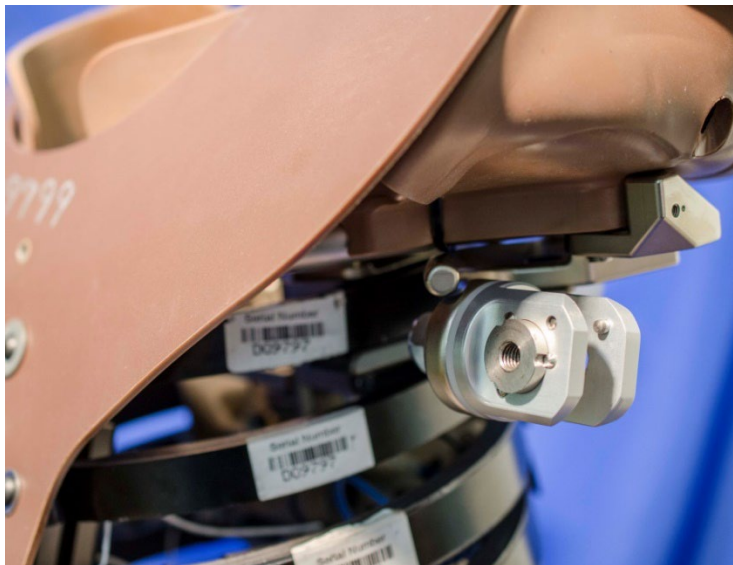

Figure 13-18. Insert upper arm pivot nut into arm clevis
13.2.3.3 Insert the Upper Arm Pivot Nut (472-3833) into the Arm Clevis (472-3832) and align the recess in the pivot nut with the dowel pin (Figure 13-18).